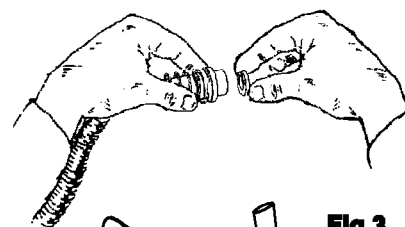

Fig.2
- ◆ Remove the spring-holder from the flexible hose (13) and connect it to the valve (22) paying attention to the correct position of the gasket (26) (Fig.2).
- ◆ Connect hot water to left inlet pipe and cold water to right inlet pipe paying attention to the correct position of the gaskets (28).